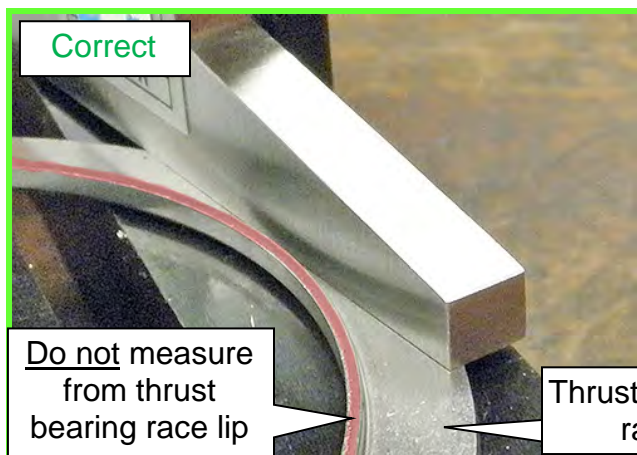

Figure 10GG
- c. Measure and confirm that the selected thrust bearing race is the correct thickness before installing (Figure 10GG).